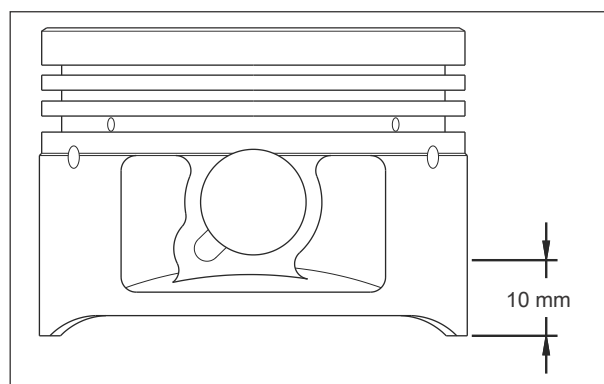

Fig. 3.91
- Measure the diameter at the right angle to the pin piston and at a point which is 10 mm from the bottom to check wear. If the diameter is lower than the service limit, replace the piston. (Fig. 3.91)